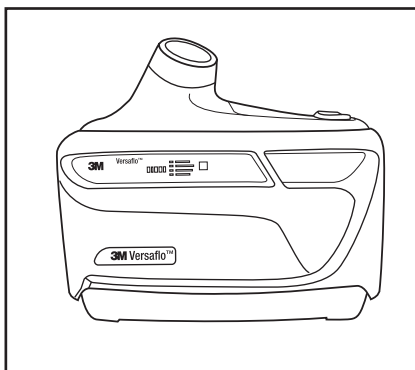

Fig. 13 – 3M™ Versaflo™ Powered Air Purifying Respirator TR-800 with filter/cartridge label visible
- If the filter cover is used, the filter/cartridge label must be visible in the filter cover window (Fig. 13).